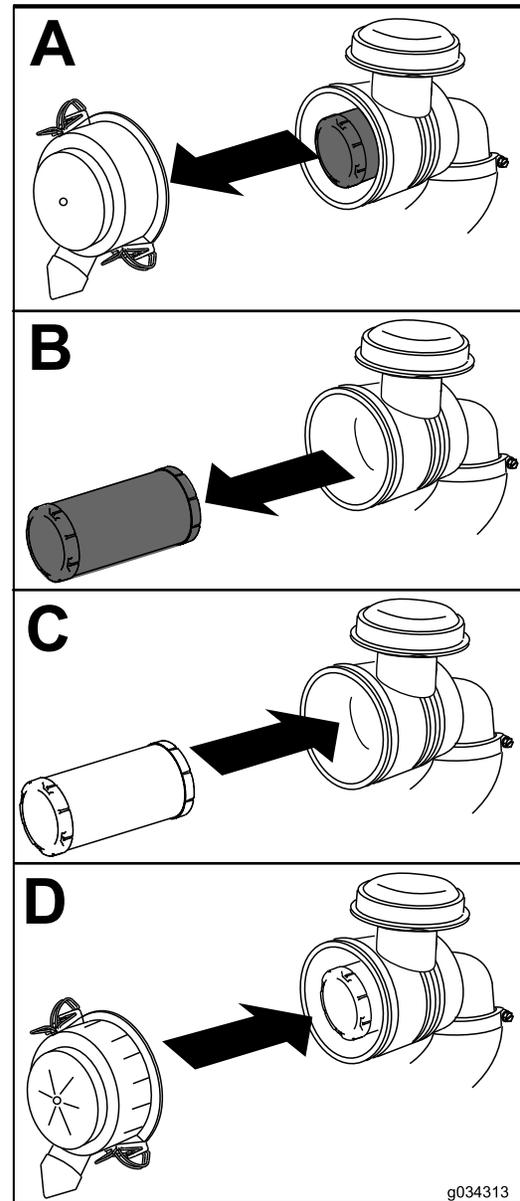

Figure 39
4. Install the air-cleaner cover with the side indicated as “UP” facing upward and secure the latches (Figure 39).
1. Gently slide the air filter out of the air-cleaner body (Figure 39).